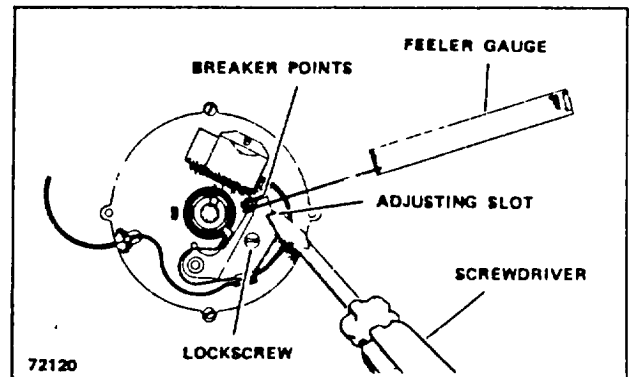

Figure 10. Adjusting Contact Gap
3. Install contact set and be certain that points are in perfect alignment (Figure 10).
7. Bring the points to their maximum open position (Figure 10), and loosen the contact assembly locking screw. Lock distributor clamp bolt.
6. Lock distributor clamp and verify point gap of .020" using feeler gauge (Figure 10).